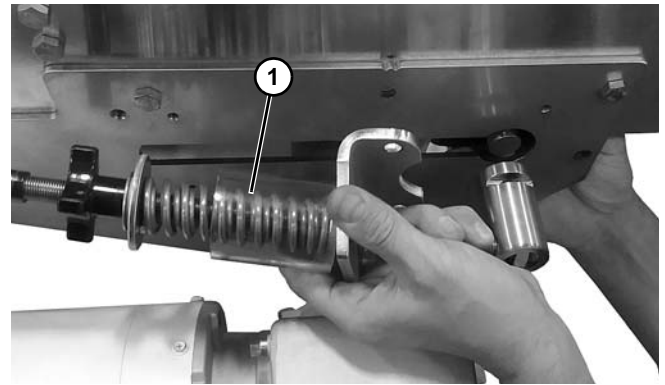

Figure 98
8. Remove tension assembly (**Figure 98, item 1**) on both sides of the center drive.